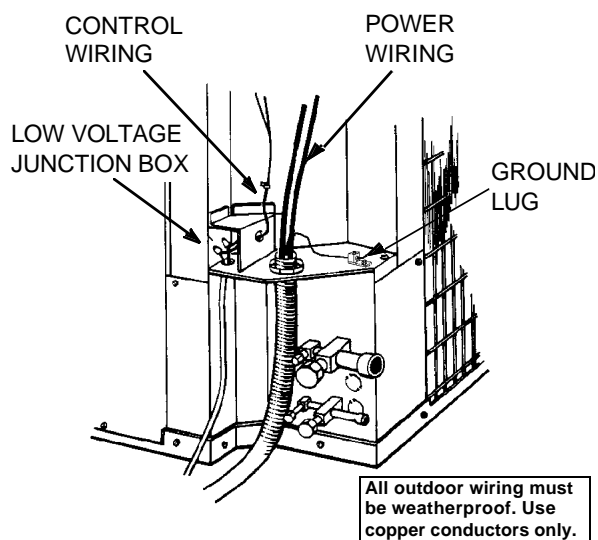

FIGURE 6 : TYPICAL FIELD WIRING
3. Remove the control box cover to gain access to the unit wiring. Route wires from disconnect through power wiring opening provided and into the unit control box as shown in Figure 6.
After the thermostat is mounted, route the 24-volt control wiring (NEC Class 2) from the thermostat to the indoor variable speed air handler and outdoor unit. Route the control wiring into the grommeted hole in the bottom of control box of the outdoor unit. Using wire nuts connect to leads inside the low voltage junction shown in Figure 6 and wiring diagrams shown in Figures 7 -10.